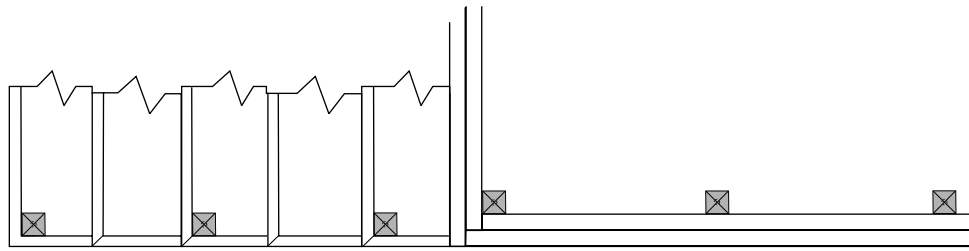

Fig. 7-6 Add Blocking to Frame
2. Install a 4" x 4" or a 6" x 6" block approximately 8- to 10-inches long in the floor or on the side of the stringer. Please note Fig. 7-6 here.